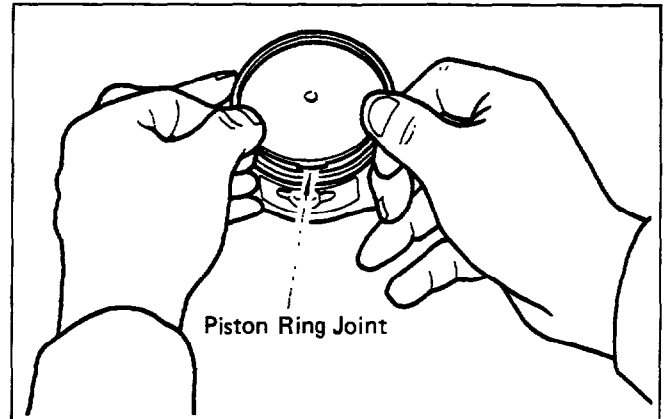

Fig. 9-4-4
- (1) If a ring expander is not available, set the ring joint at the first land of the piston, as shown in Fig. 9-4-4. Then, open the joint wide so that the ring can be slid into the regular groove.